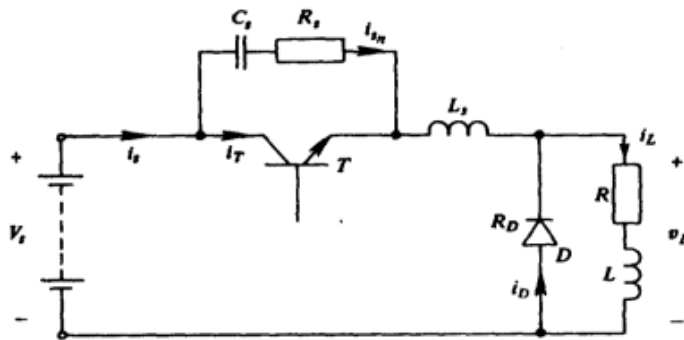

Fig.1
1. A class-A transistor chopper circuit shown in Fig.1 supplied with power from an ideal battery of terminal voltage 120 V. The load voltage waveforms consists of rectangular pulses of duration 1 ms in an overall cycle of 3 ms.
6. In the chopper circuit shown in Fig.1 (problem 1) $V_i = 220\text{V}$, $L = 1.5\text{ mH}$, $R = 0.5\text{ ohm}$ and it operating with $T = 3\text{ ms}$ and $t_{\text{on}} = 1.5\text{ ms}$.